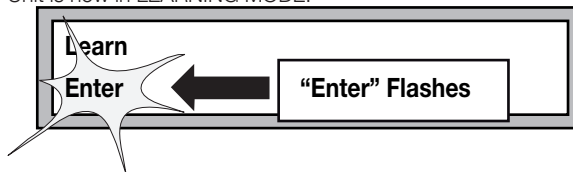

Figure 10 - LCD DISPLAY
4. Turn on the electrical power to the unit. The control board should already be in the "LEARNING MODE" when shipped (see Figure 10), but in order to select the right kind of gate press FUNCTION, then LEARN then select SWING, then select LIGHT or AVERAGE or HEAVY, then press ENTER.